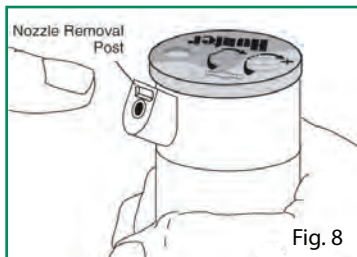

Fig. 8
3. Slip the desired nozzle into the nozzle socket (Fig. 8). Note that the socket is angled up  $25^\circ$ . The “ears” should be adjusted so that the nozzle range screw threads directly down between them. Then tighten the nozzle range screw. The raised bump with an arrow on the rubber cover will always indicate the location of the nozzle and direction of water flow when the sprinkler is retracted.